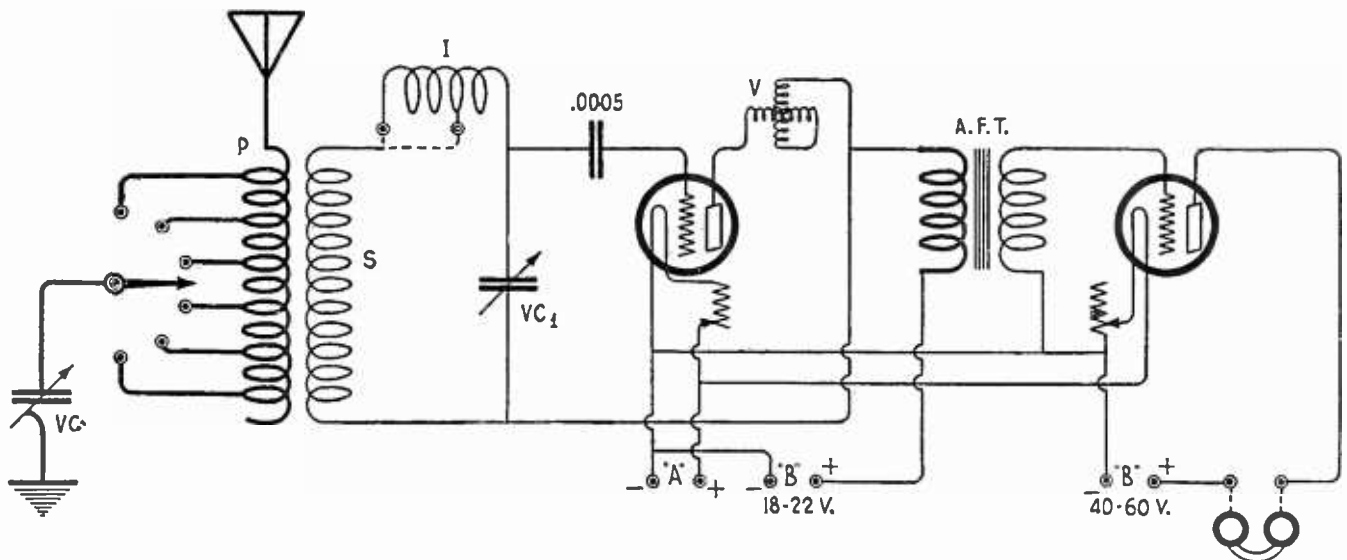

FIG. 2
Using the insulated copper wire furnished with the variocoupler, 80 turns are wound on the stator tube, a tap being brought out at every 10th turn. This makes a total of 8 taps, which are soldered to the 8 contact points and switch, as shown in the circuit diagram in Fig. 2.
The dials and knobs, from left to right, control: the secondary of the variocoupler (S in Fig. 2), the taps on the primary (P), the variable condenser (VC1), the detector tube filament, the variometer (V), and the amplifier tube filament